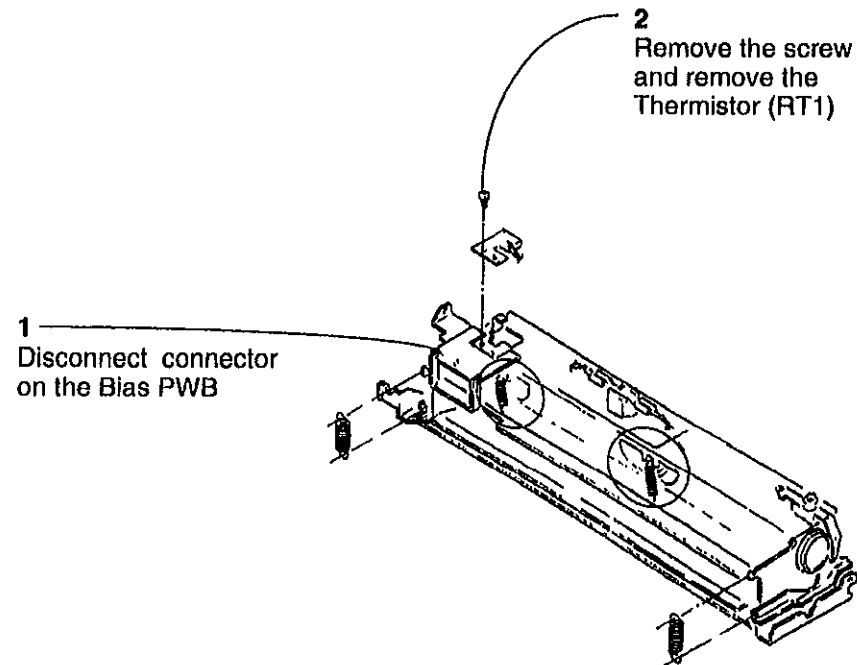

Figure 1. Removing the Thermistor (RT1)
1. (Figure 1) Remove the Thermistor (RT1)